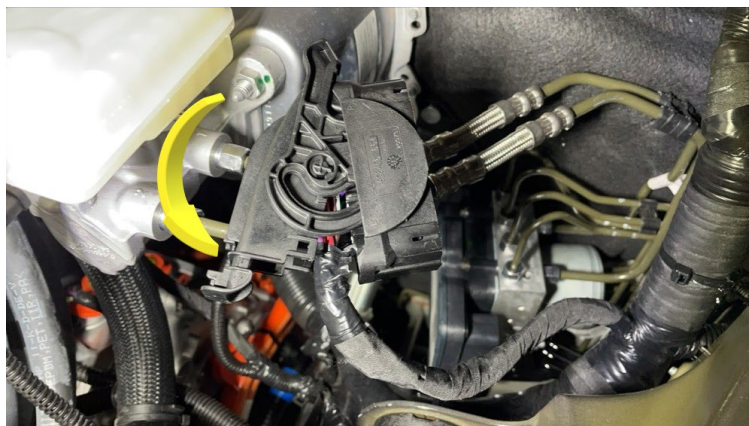

Figure 28
19. Attach the rear cover to the HCU connector, and then swing the rear cover close (Figure 28), engaging the tabs.